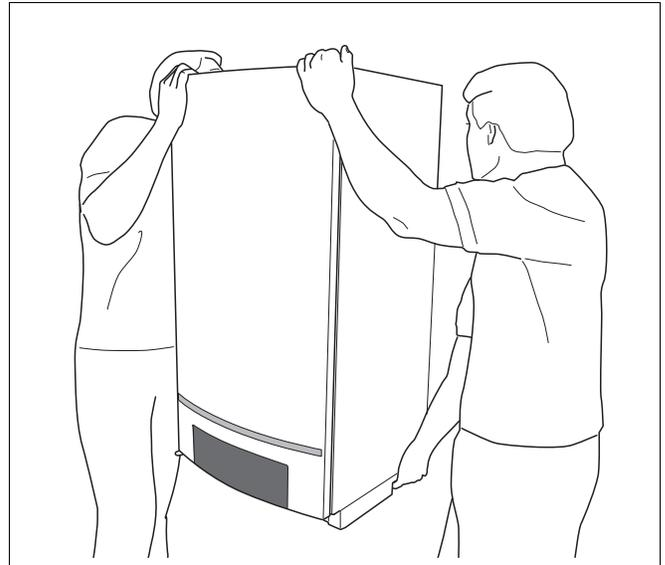

Fig. 5 Lift and carry the boiler correctly
- Always lift and carry the boiler with two people as shown in fig. 5, or use a handtruck or special equipment.
- With two people, lift the boiler by holding it by its back and by the transport rail at its bottom and install it on the wall bracket (fig. 5, page 14).